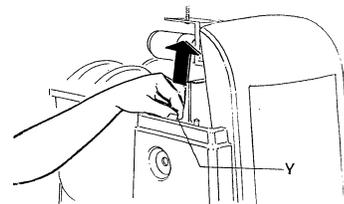

FIGURE 17
23. Pull the lockpin/safety pin (Y) upwards - FIGURE 17.